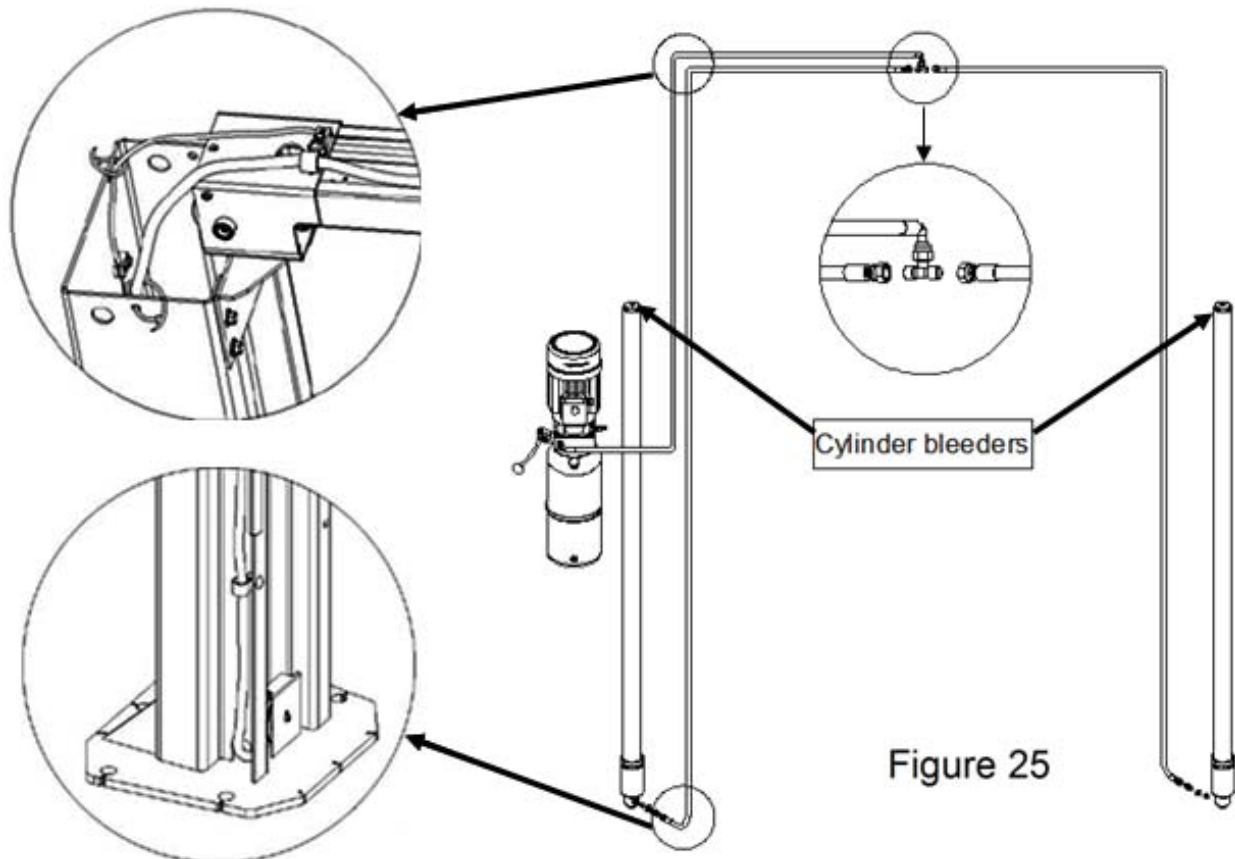

Figure 25
- Install hose clamps and route the hoses referring to figure 25;
- Open the bleeder of each cylinder approximate two turns (ref. fig. 25);